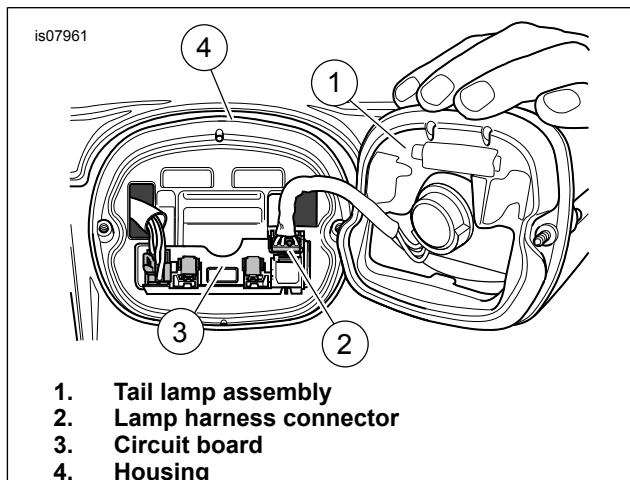

Figure 1. LED Lamp Assembly Removal and Installation
1. Remove two screws to release tail lamp assembly (1) from housing (4).
2. See Figure 1. Remove the tail lamp connector (2) and tail lamp assembly from the circuit board (3).